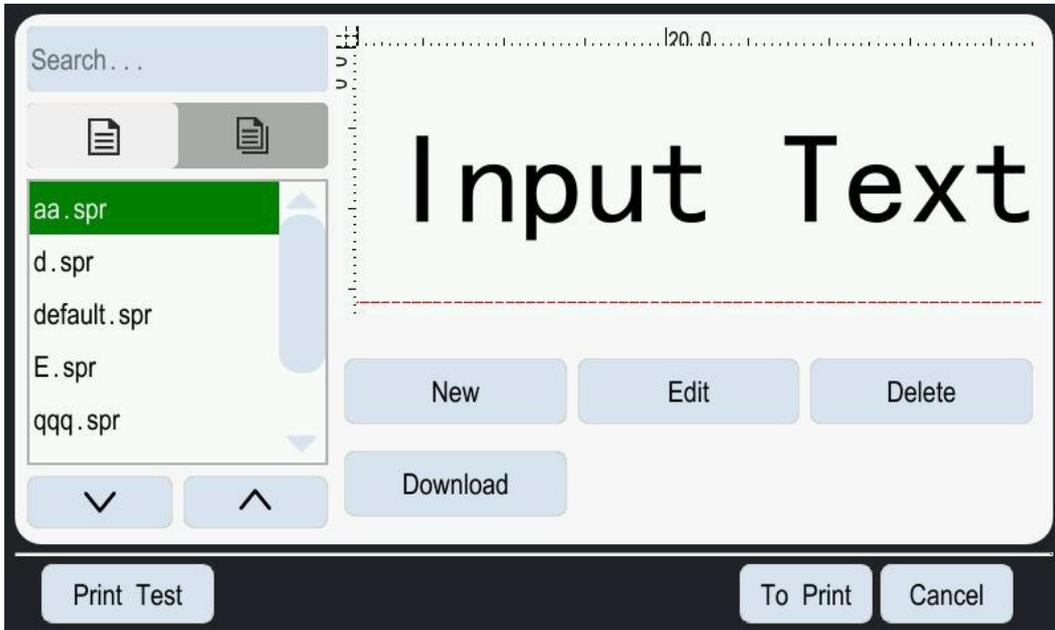

Figure 5-3: Load File Interface
1. Click the File Management  button on the main interface. The system enters the file loading interface, as shown in Figure 5-3.